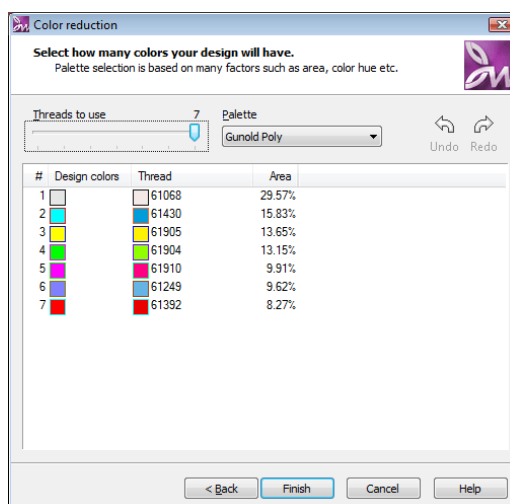

Figure 2.35: Color reduction dialog
19. The **Color reduction** (number of threads) dialog (Figure 2.35) will appear where you can select your **Thread palette**. Use Palette drop-down menu to select any of the available thread manufactures palette. For example, select **Gunold Poly** thread.